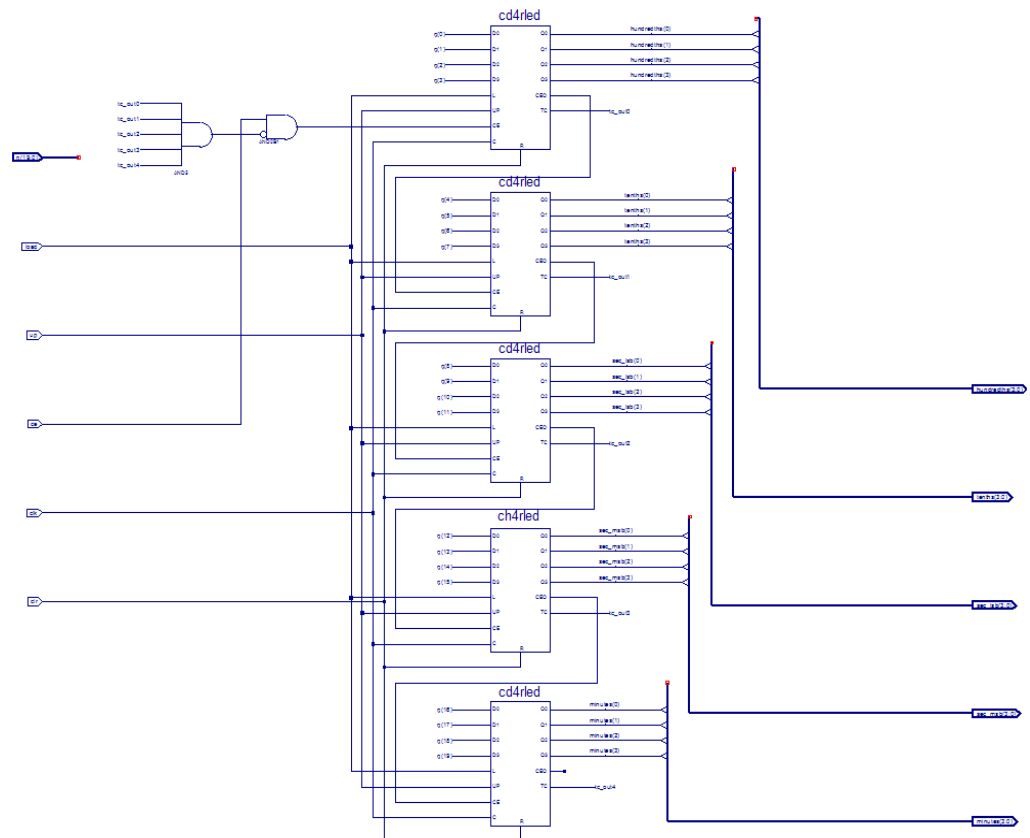

Figure 3-15: Completed time\_cnt Schematic
**Note:** It is the name of the wire that makes the electrical connection between the bus and the wire (e.g sec\_msb(2) connects to the third bit of sec(3:0)). The bus tap figure is for visual purposes only. The following section shows additional electrical connections by name association.
8. Compare your time\_cnt schematic with Figure 3-15 to ensure that all connections are made properly.
5. Click successively on each of the nets connected to data inputs, starting from the top so that the net named q(0) is attached to the D0 pin of the top counter and the net named q(19) is attached to the D3 pin of the bottom counter. Refer to Figure 3-15.